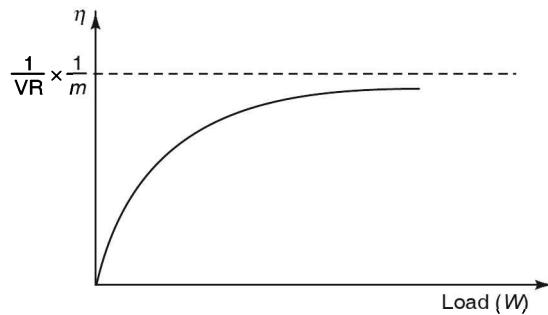

FIGURE 7.36 Variation of efficiency.
The efficiency increases as load (W) increase. When load (W) approaches infinity, the value of C/W becomes equal to zero (Figure 7.36). Hence, the maximum efficiency approaches